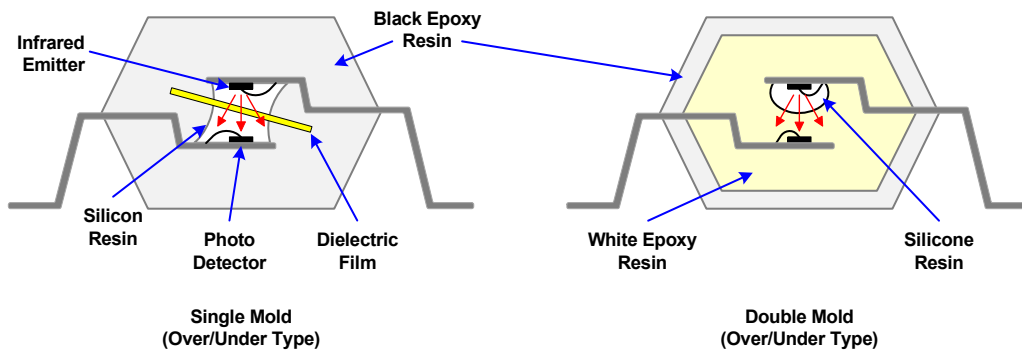

Figure 2. Optocoupler Constructions
- Figure 2. Optocoupler Constructions 2
The manufacturing process and structure of an optocoupler varies between manufacturers. Renesas optocouplers are constructed based on single or double mold processes (Figure 2), and rated at Moisture Sensitivity Level (MSL) 1.